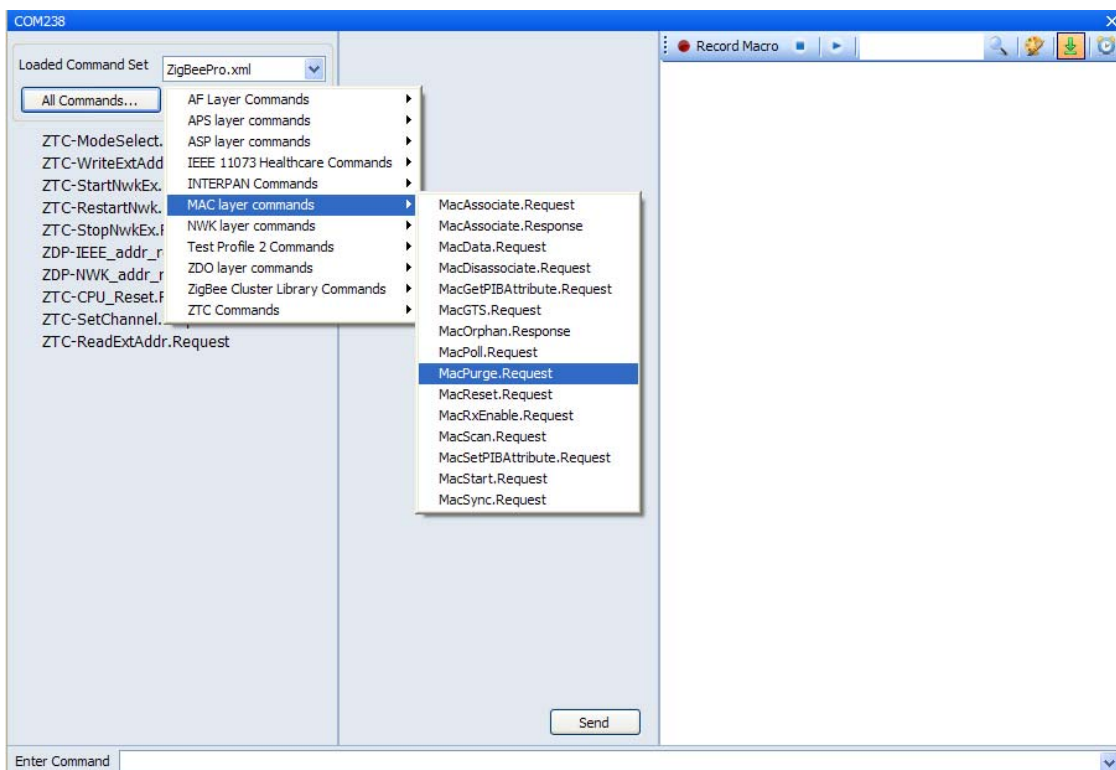

Figure 2-10. Command Console (MAC Command Entries)
4. Click the All Commands... button. From the hierarchical pop-up menu choose MAC Commands -> MacPurge.Request (Figure 2-10).